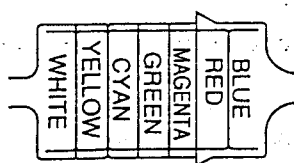

Figure 2-15.
- Adjust FL5303 (1.1MHz playback bell filter) so that the match with the flat portion of the red and blue as shown in Figure 2-15.